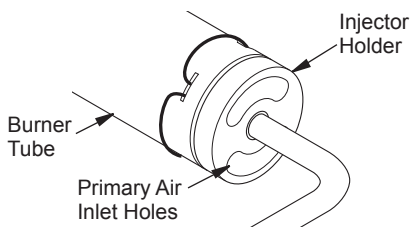

Figure 29 - Injector Holder On Outlet Burner Tube
2. Inspect burner, pilot and primary air inlet holes on injector holder for dust and dirt (see Figure 29).